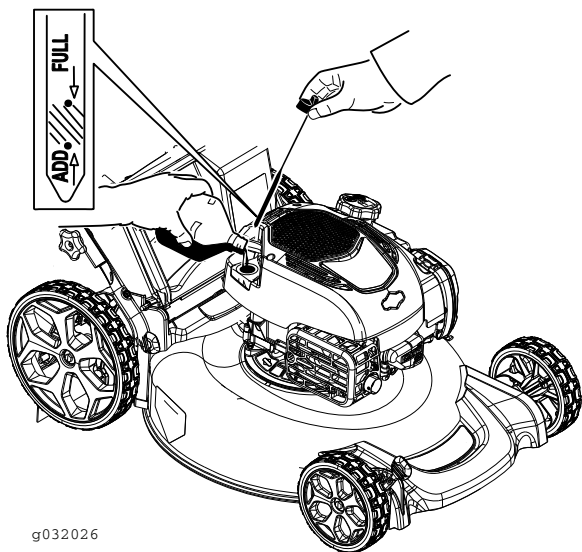

Figure 27
12. Remove the dipstick and read the oil level on the dipstick (Figure 27).